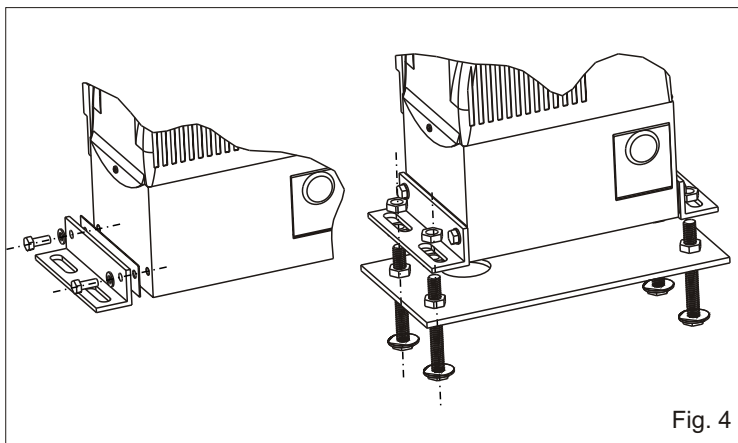

Fig. 4
4.1. Fix the side fixing angulars to the motor-reducer with the provided screws (Fig. 4)
4.2. Fix the motor-reducer to the foundation plate adjusting the side position and its height (Fig. 4 - Fig. 5) considering the mentioned measurements in Fig. 2.